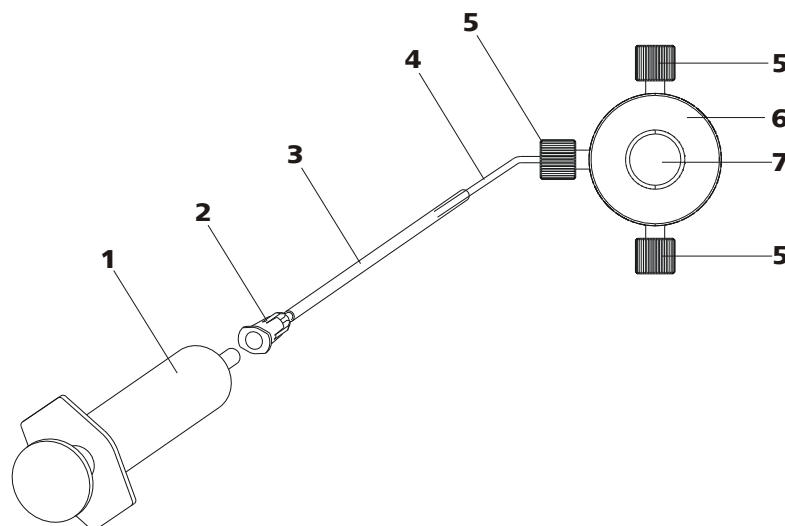

Figure 15 Deaerate the high pressure pump
Deaerate the high pressure pump as follows (see Figure 15, page 31):
- Insert syringe (15-1) in the Luer connector (15-2) of the purging needle (see Figure 15, page 31).